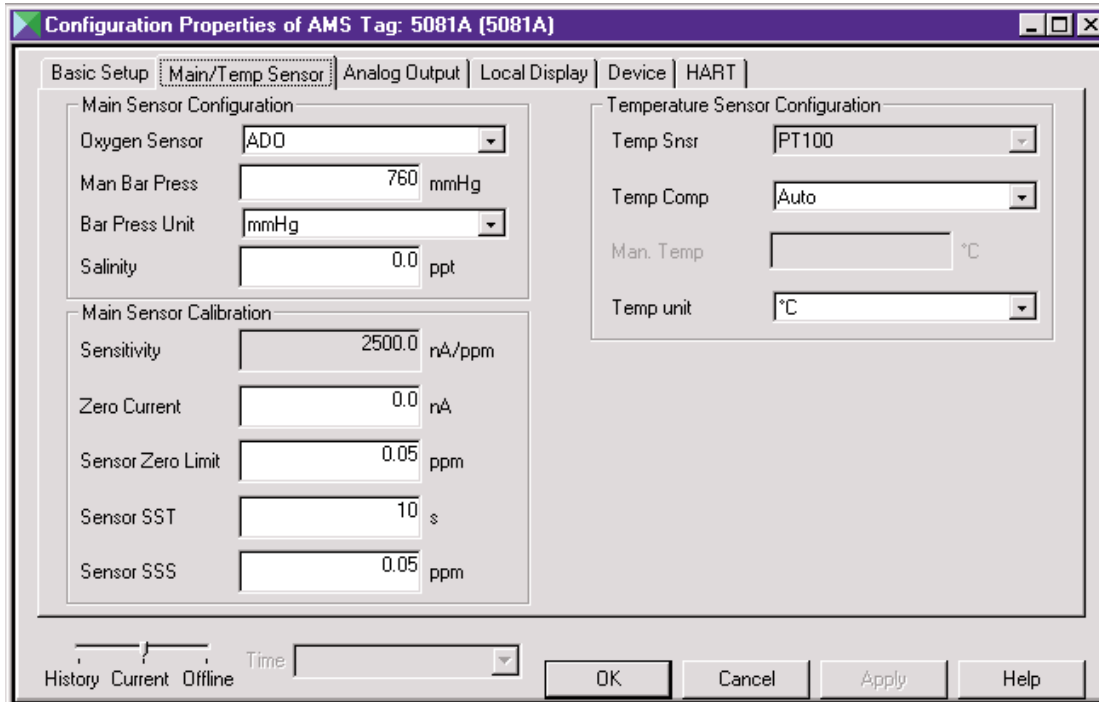

FIGURE 1-4. ASSET MANAGEMENT SOLUTIONS (AMS) CONFIGURATION SCREEN
1.12 ASSET MANAGEMENT SOLUTIONS (AMS) (FIGURE 1-4)
Rosemount Analytical AMS windows provide access to all transmitter measurement and configuration variables. The user can read raw data, final data, and program settings and can reconfigure the transmitter from anywhere in the plant. Figures 1-4 and 1-5 show two of the many configuration and measurement screens available.